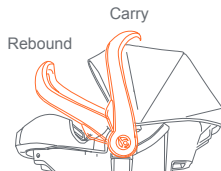

Fig. 27-1
**ONLY** use **Rebound** or **Carry** Handle positions in vehicle. Use **Carry position** for children greater than 22 lb or if feet can touch the handle (Fig. 27-1).